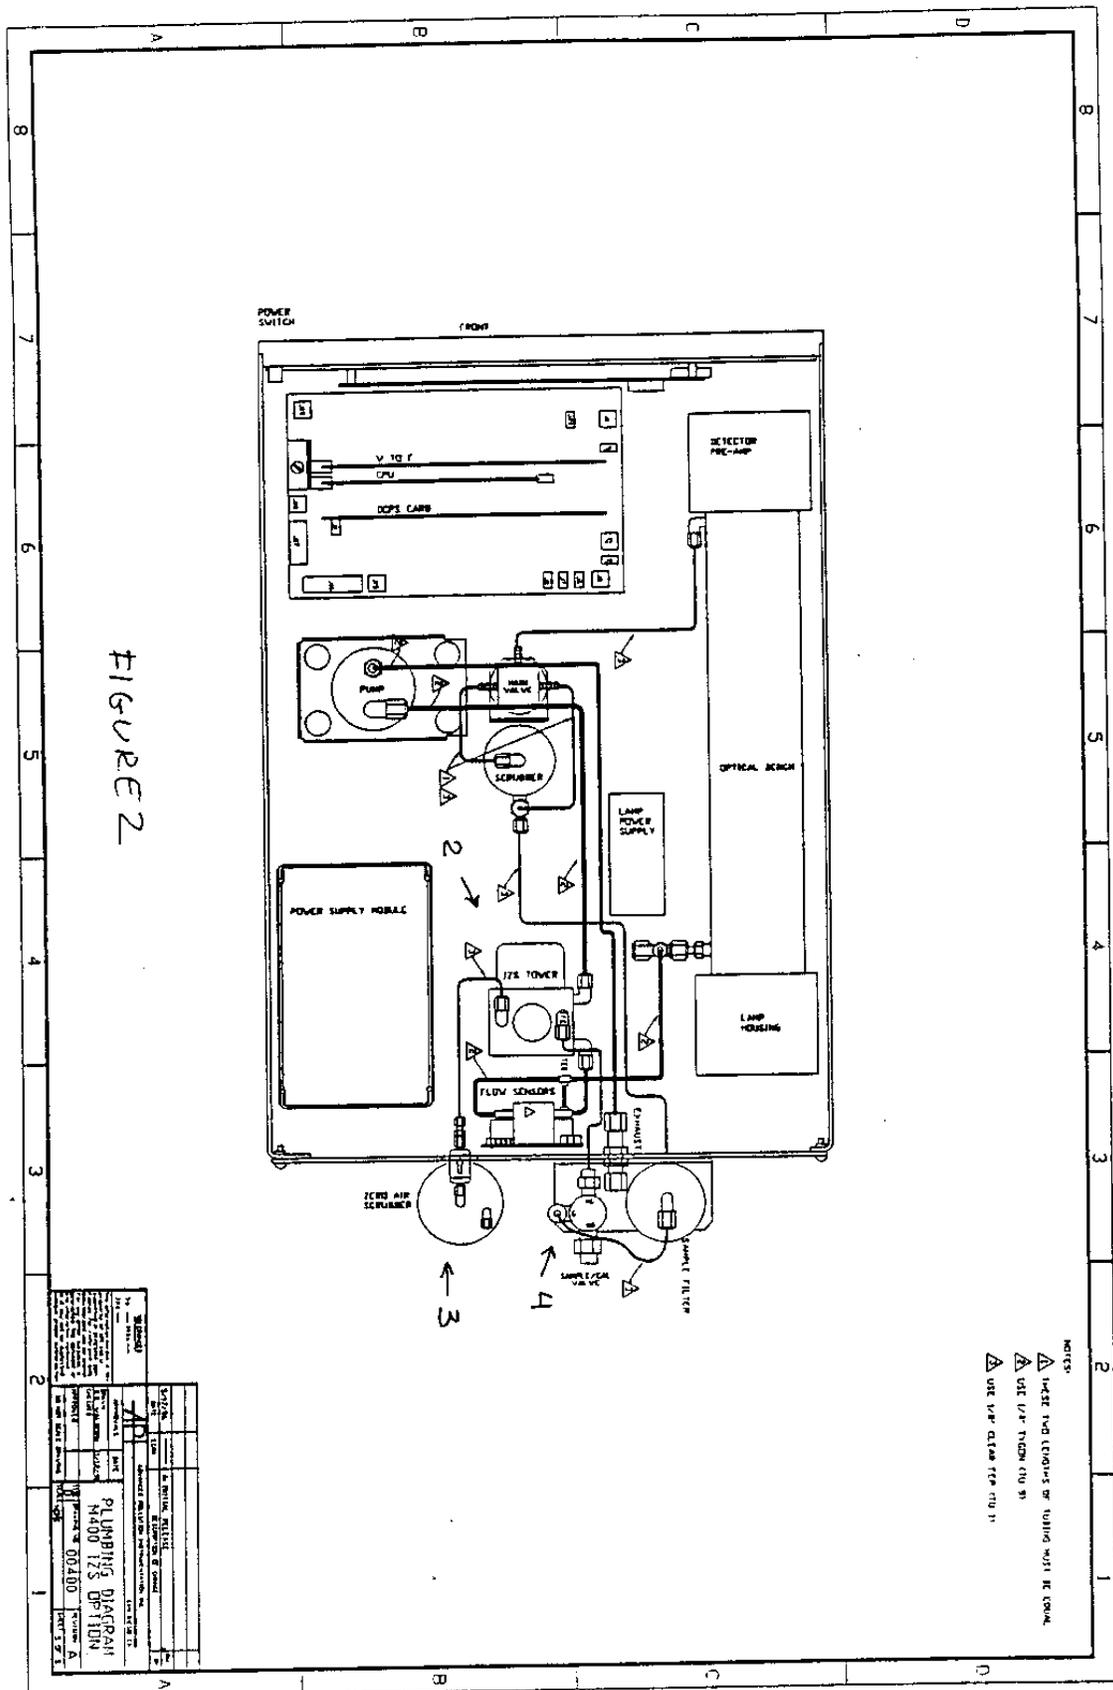

FIGURE 2
2. Physically mount the IZS O3 generator tower assembly in the chassis at the location shown in Figure 2, step 2.
3. Physically mount the IZS charcoal zero scrubber with its associated bracket on the rear panel as shown in Figure 2, step 3.
4. Physically mount the sample/cal gas valve with its associated bracket on the rear panel as shown in Figure 2, step 4.
5. Make pneumatic connections as shown in Figure 2. **NOTE:** All the tubing upstream of the optical bench is 1/8" teflon and all the tubing downstream of the optical bench is 1/4" tygon.